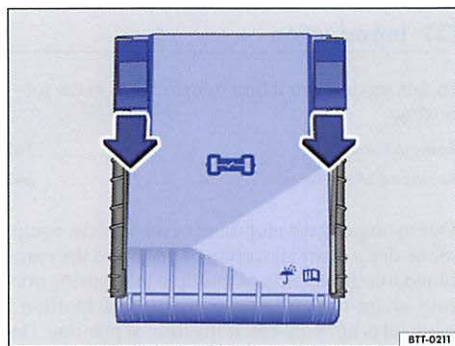

Fig. 189 In the engine compartment: Fuse box cover.
- Slide the release buttons forward in the direction of the arrow to unlock the fuse box cover $\Rightarrow$ fig. 189.